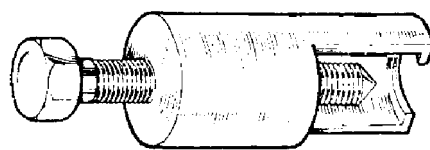

FIG. 16
**Removing small timing pinion.** The nut securing this pinion has a *left-hand* thread. The pinion is a taper fit on the shaft and usually requires an extractor tool B2I5I similar to the one shown in Fig. 16. When using any kind of extractor apply light pressure on the withdrawal part of the tool, then give the end a sharp blow with a hammer, the shock will dislodge the pinion. A new pinion will absorb backlash and cure timing gear rattle.